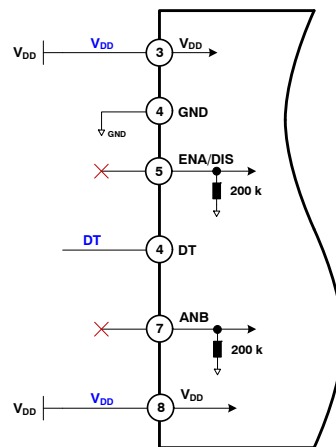

Figure 7. Example of AND, and ENA/DIS Pins are Floating
The input signal pins impedance is 200 kΩ typically and the ANB and ENA/DIS pins for DISABLE is pulled to GND pin as shown in Figure 7. Whereas the ENA/DIS pin for ENABLE feature has pulled to V_{DD} pin as shown in Figure 8 (B).